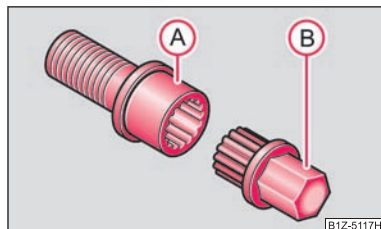

Fig. 181 Illustration image: Safety wheel bolt with adapter
- Insert the adapter (B) with its toothed side fully into the inner tooting of the safety wheel bolt (A) right down in such a way that only the outer hexagon is jutting out ⇒ fig. 181.
- Insert the wheel wrench fully onto the adapter (B).